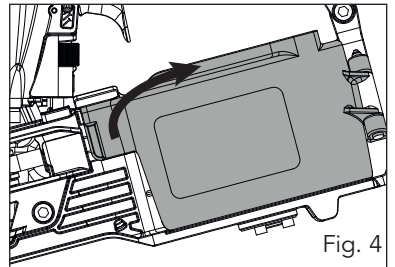

Fig. 4
2. Open the cover of the magazine (10) (fig. 4).